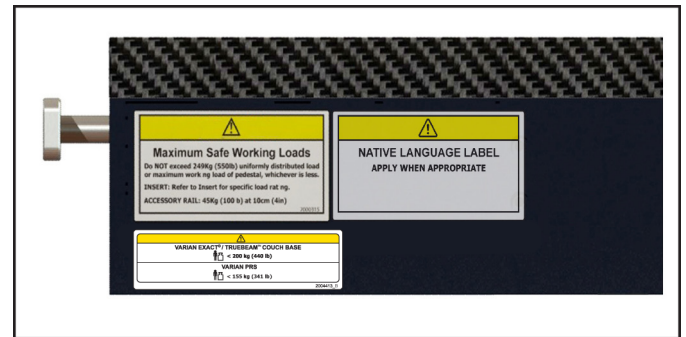

Fig. 48
10. Place native language 2" x 4" CAUTION label to the right of 2" x 4" current CAUTION label where appropriate (Fig. 48).